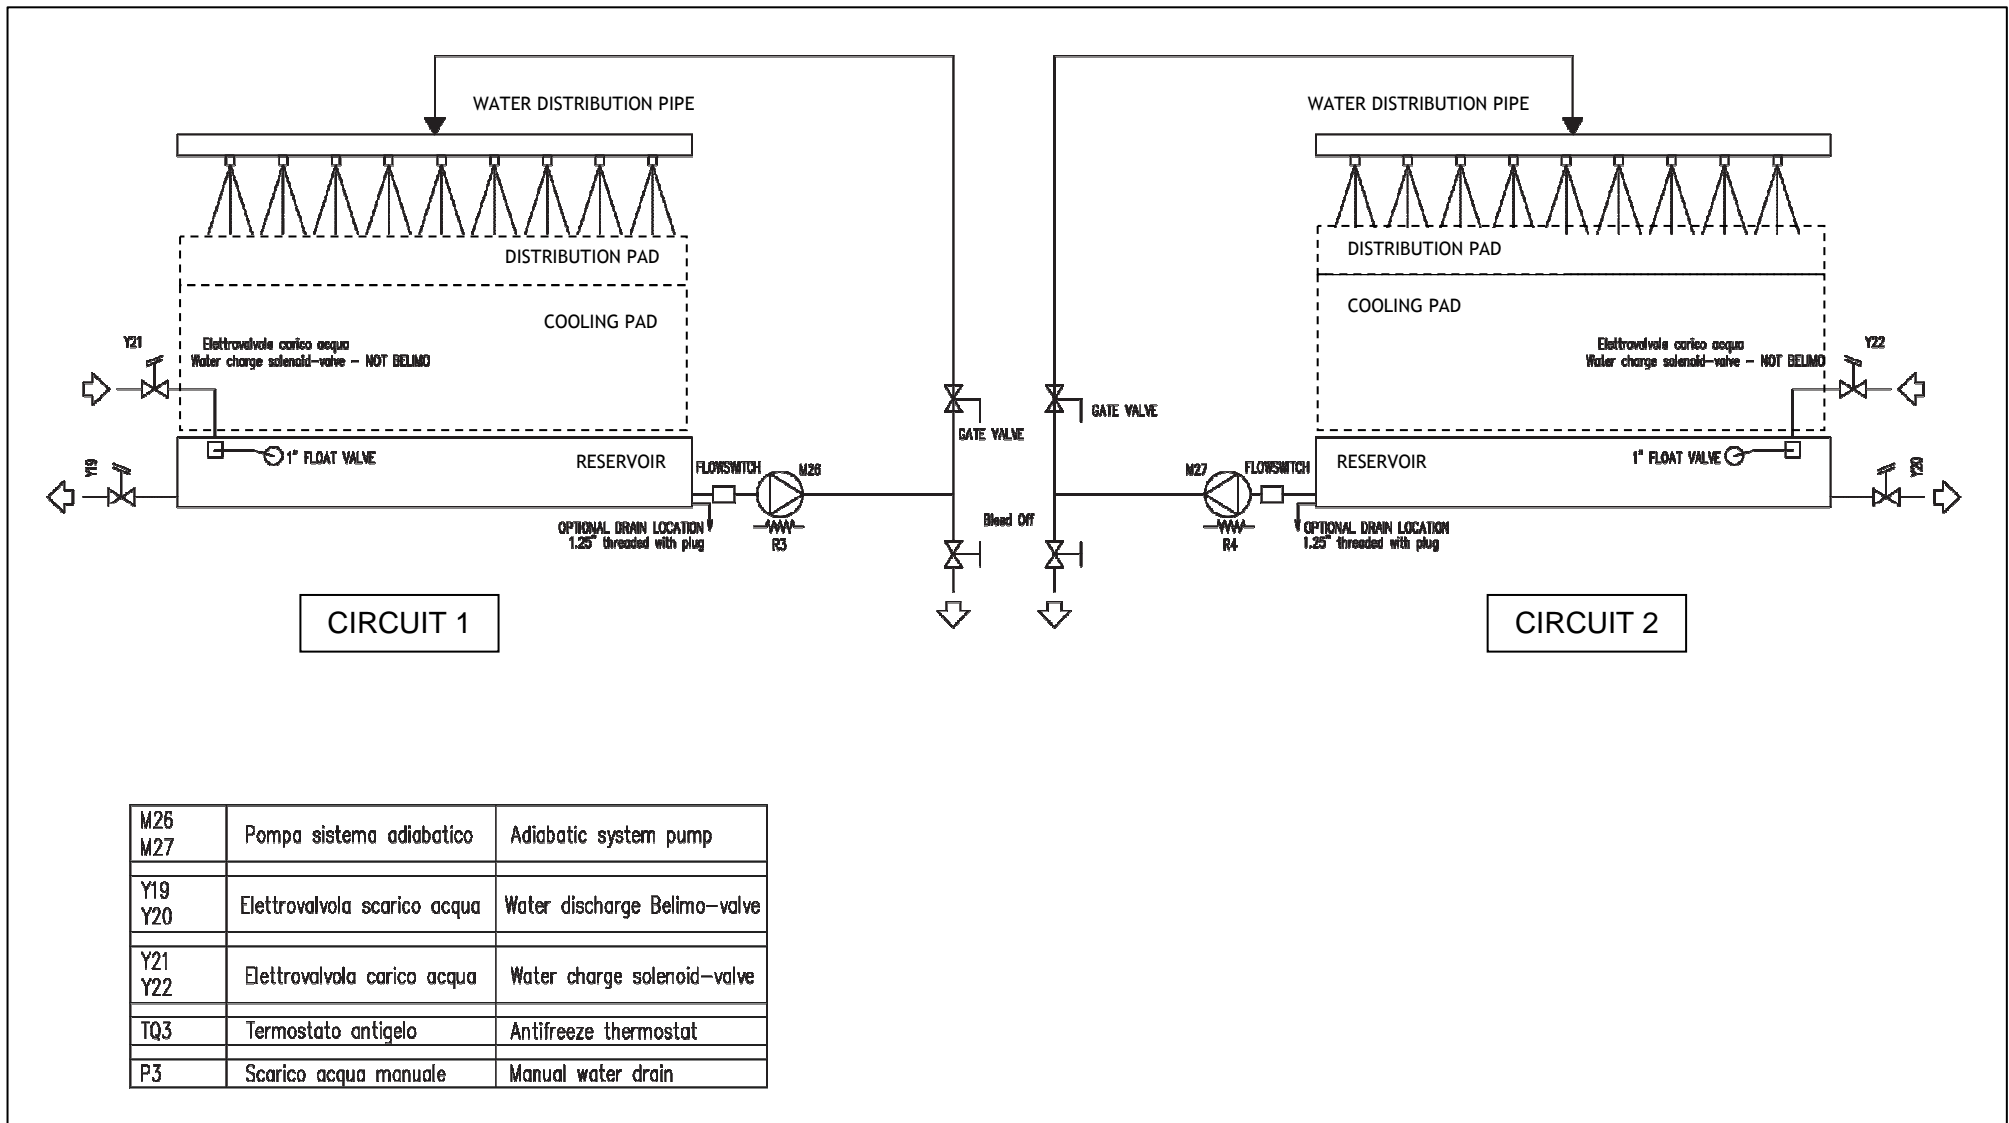

Figure 2. Process and instrumentation diagram of the adiabatic system
Referring to Figures 2 and 3, the Hitema adiabatic system works as follows: the water is supplied through a pipe to a distribution pad on top (1) (2) (3). This ensures a uniform supply of the water to the cooling pad and minimizes the risk of dry spots. The water is then evaporated into the dry and warm air that passes through the pad. The heat that is needed for the evaporation is taken from the air itself. The air that leaves the pad is therefore cooled and humidified simultaneously. The water that is not evaporated is drained back to the reservoir (5). A circulation pump (6) takes the water from the reservoir and it sends the water to the distribution pipe. When the adiabatic system doesn't work, an automatic drain (4) empties the reservoir to avoid water stagnation. The consumption of water due to the evaporated water and the bleed-off is restored by a float valve (4).